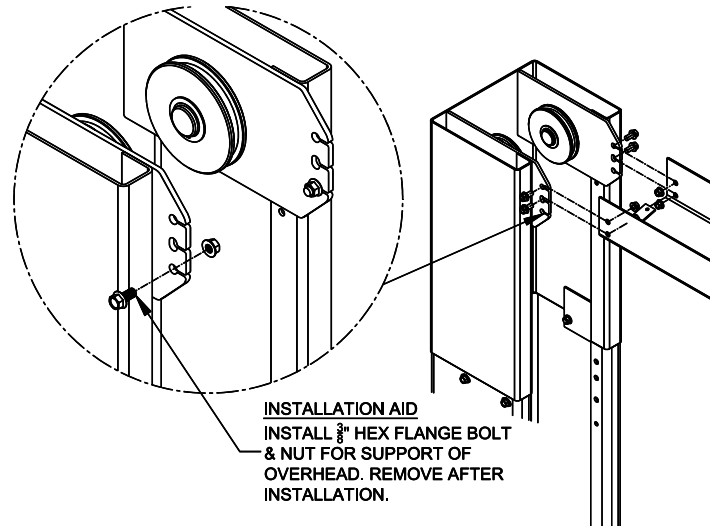

**Fig. 3 – Column Shimming**
- 9) Shim both columns to plumb using the shims provided as shown in **Fig. 3**. DO NOT shim more than 1/2" at any given point. Use a level no less than 24" in length to plumb columns.
- 13) Check idler column shimming. Use additional shims (*see Fig. 3*) to remove any gaps that may have been created while installing overhead beam. Tighten anchor bolts and re-check column for plumb. Torque to 150 foot pounds.